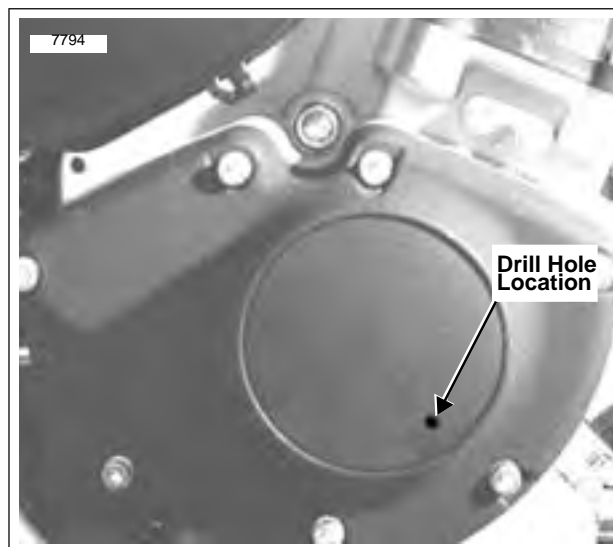

Figure 7-18. Drilling/Removing Timer Cover
See Figure 7-18. The rotor cup is located in the gearcase cover on the right side of the vehicle behind the integrated ignition module. The rotor is mounted on the camshaft and operates at one-half crankshaft speed. See IGNITION TIMING for information on the function, testing and adjustment of the integrated ignition module and trigger rotor assembly.
7. See Figure 7-18. Drill hole in outer timer cover at 5:00 position approximately 1/2 inch (13 mm) in from outside edge. Pull out outer timer cover using 90 degree pick or other suitable tool.
7. See Figure 7-18. Drill hole in location shown and remove outer timer cover, if not removed.
10. See Figure 7-18. Tighten module plate screws to 10-20 **in-lbs** (1-2 Nm)
2. See Figure 7-18. Drill hole in outer timer cover at 5:00 position approximately 1/2 inch (13 mm) in from edge. Pull out outer timer cover using 90 degree pick or other suitable tool.
See Figure 7-18. The ignition coil is a pulse-type transformer. Internally, the coil consists of primary and secondary windings with a laminated iron core. The contents are sealed in a waterproof insulating compound. The ignition coil is not repairable. Replace the unit if it fails.